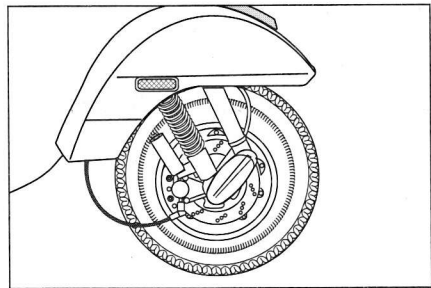

Fig. 22
*Stella* scooters are also produced with Disc brake in front wheel (Fig. 22).